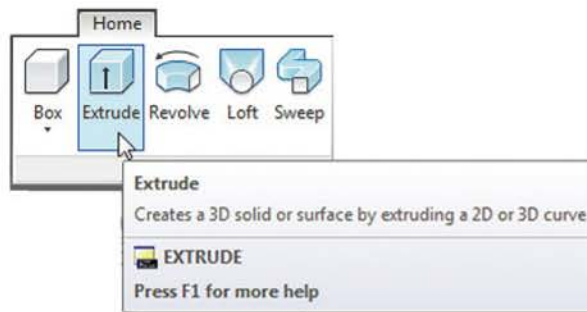

Fig. 9.12 The Extrude tool from the Home/Create panel
The **Extrude** tool can be called with a *click* on its name in the **Home/Create** panel (Fig. 9.12), or by *entering extrude* or its abbreviation *ext* at the command line.
3. Call **Extrude** (Fig. 9.12). The command sequence shows: